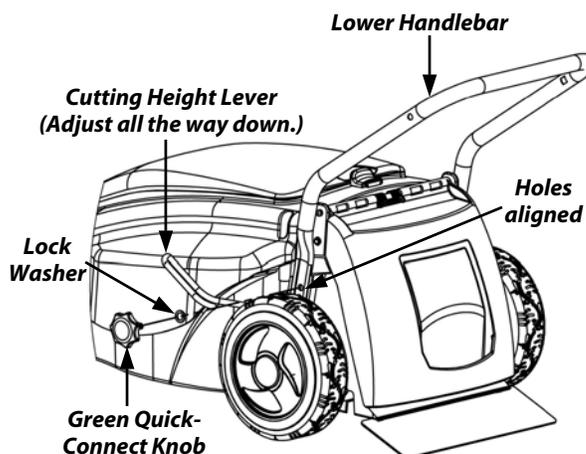

Figure 4
1. Set the Cutting Height Lever (**Figure 4**) to the highest adjustment (position 6 – Lever all the way down). This makes it easier to reach the slots on the Mower frame.
2. Position the Lower Handlebar with the smooth side against the frame of the Mower. Slide it down fully into the slot on the frame until the holes line up (**Figure 4**).